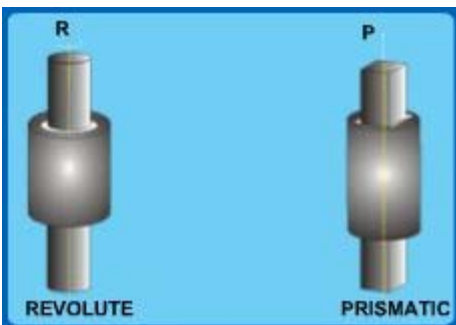

Figure 4.1.1
- Link and joints (revolute and prismatic), that are mostly used in manipulators, are shown in Figure 4.1.1